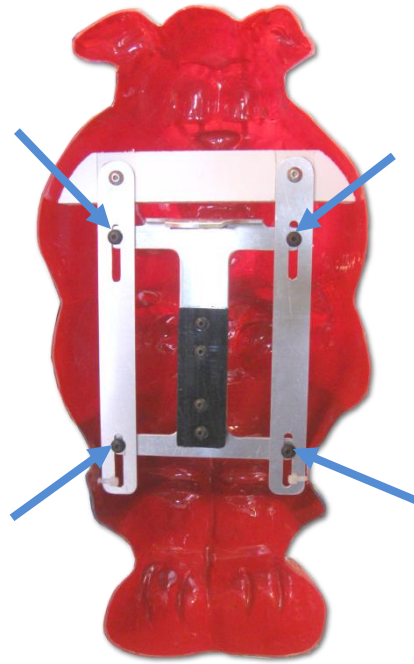

Fig. 11
1. Loosen the four (4) 8-32 screws located on the back side of the Toy as shown in Fig. 11.